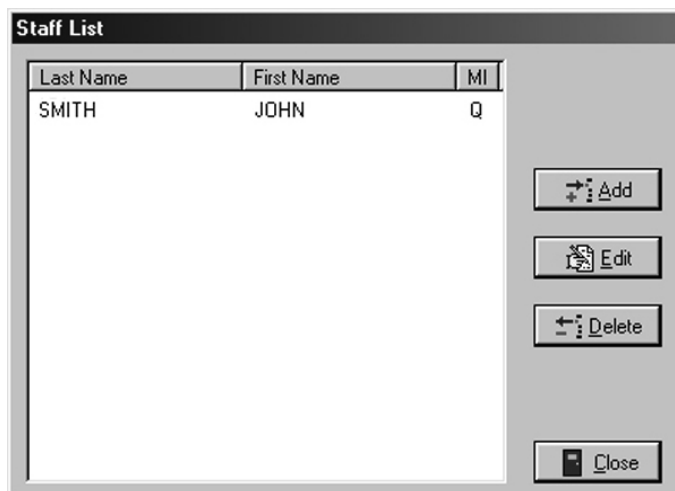

Fig. 2.4 - Staff List Dialog Box
This will once again display the **Staff List** dialog box (Fig. 2.4).
5. Click **Save** to return to the **Staff List** dialog box (Fig. 2.4). Click **Add** to add the next user and follow the process once again. When you have registered all staff members in the SAM System, click **Close** to return to the main SAM System menu.